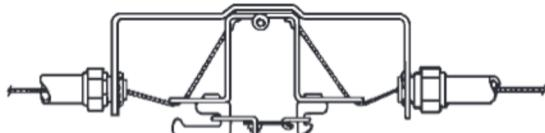

FIGURE 49
- 8. Starting at the terminal detector, squeeze the linkage together and place the correctly rated ANSUL fusible link over both detector hooks. For optimum detection, make certain the solder joint is in the down position. Locate the linkage in the center of the detector bracket. See Figure 49.